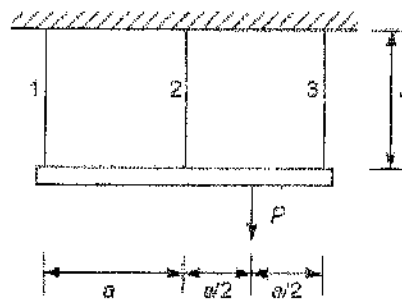

Fig.1
- a- Three identical bars of length  $L$  are hung in a vertical position as shown in Fig.1. A rigid, weightless beam is attached to their lower ends and this in turn carries a load  $P$ . Calculate the load in each bar.